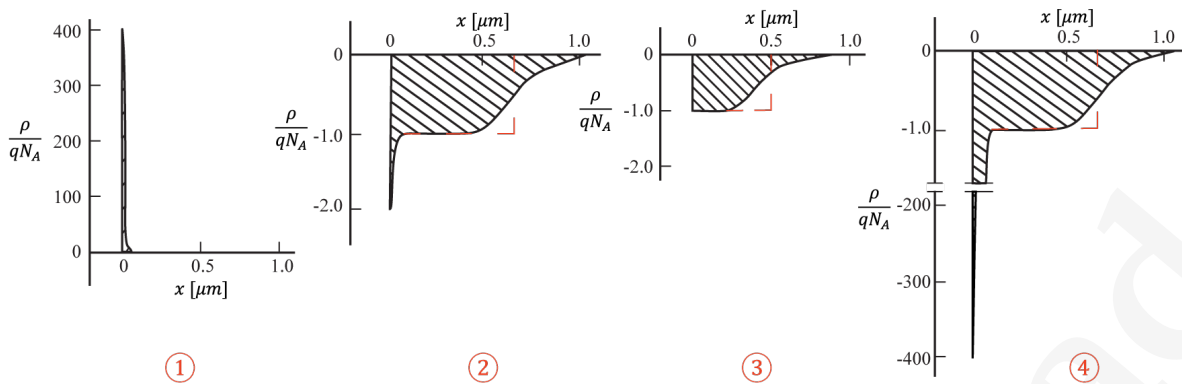

Figure 3: Charge density profile
- A. ① → (c), depletion ② → (a), inversion ③ → (b), accumulation
B. ① → (a), inversion ② → (b), depletion ③ → (c), accumulation
C. ① → (b), depletion ② → (a), inversion ③ → (c), accumulation
D. ① → (c), accumulation ② → (a), inversion ③ → (a), depletion
E. ① → (b), depletion ② → (c), accumulation ③ → (a), inversion
F. ① → (b), accumulation ② → (a), inversion ③ → (c), depletion
8. (1 mark) Match the charge density profiles shown in the following figure 3 with the corresponding biasing condition. Assume substrate is p-type.